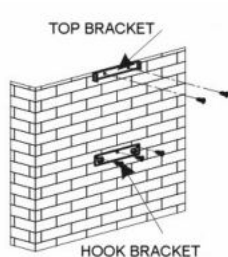

Figure 1
Place the hood main unit (no u-shaped section) against the wall at the correct position and mark off the top edge of the unit. Remove the unit and measure up 22mm to get the top level for the hook bracket. Place the hook bracket (hooks up) under the mark and mark in the 3 screw holes. Remove the bracket and drill three (3) Ø8mm holes 100mm apart. Insert plastic plugs into the holes and fix the hook bracket onto the wall (see figure 1) with three (3) 40mm screws. Place the hood main unit onto the hooks.